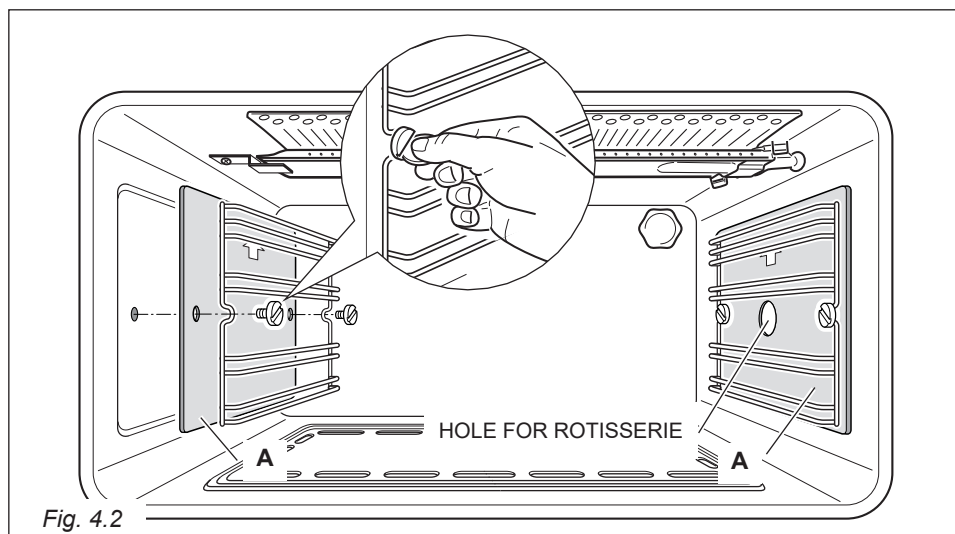

Fig. 4.2
- Assemble the wire racks to the oven walls using the 2 screws (fig. 4.2).
**In the models with catalytic panels supplied**, interpose the catalytic panels “A” with the arrow up (fig. 4.2). The catalytic panel with the hole for the rotisserie must be positioned on the right oven wall. **DO NOT INTERPOSE THE CATALYTIC PANEL WITHOUT THE HOLE ON THE RIGHT OVEN WALL.**
- Screw the side racks onto the oven walls (and the catalytic liners if supplied - fig. 4.2).